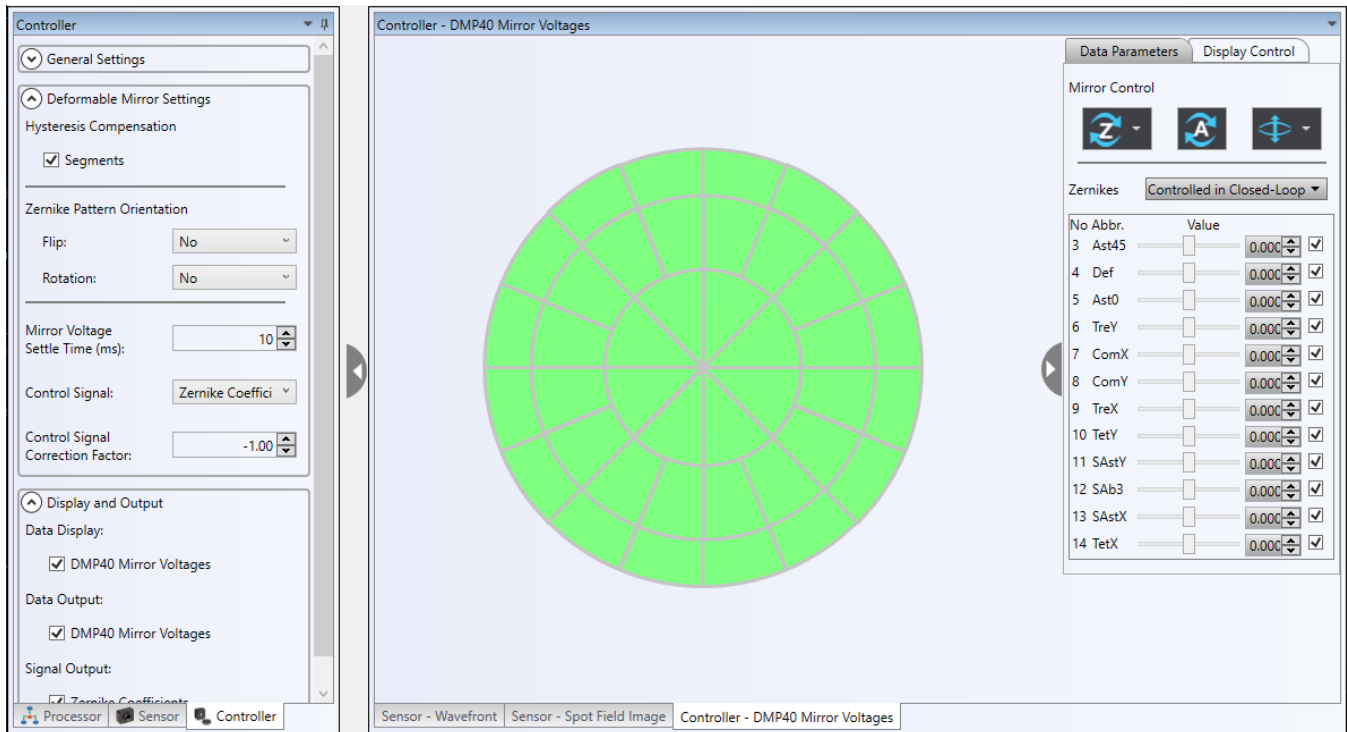

Figure 131 Thorlabs DMH40 Element Tab and Graphics Data Panel
The DMH40-P01 (DMH40/M-P01) deformable mirror element window is laid out into two (2) sections. The left section is element tab which includes deformable settings and display/output settings. The right section is the graphical display of the mirror segments, see Figure 131. The mirror includes the main mirror segments that are used to affect the incident wavefront. There are 40 unimorph piezoelectric actuators arranged in a radial pattern to allow the application of Zernike based shapes to the mirror surface